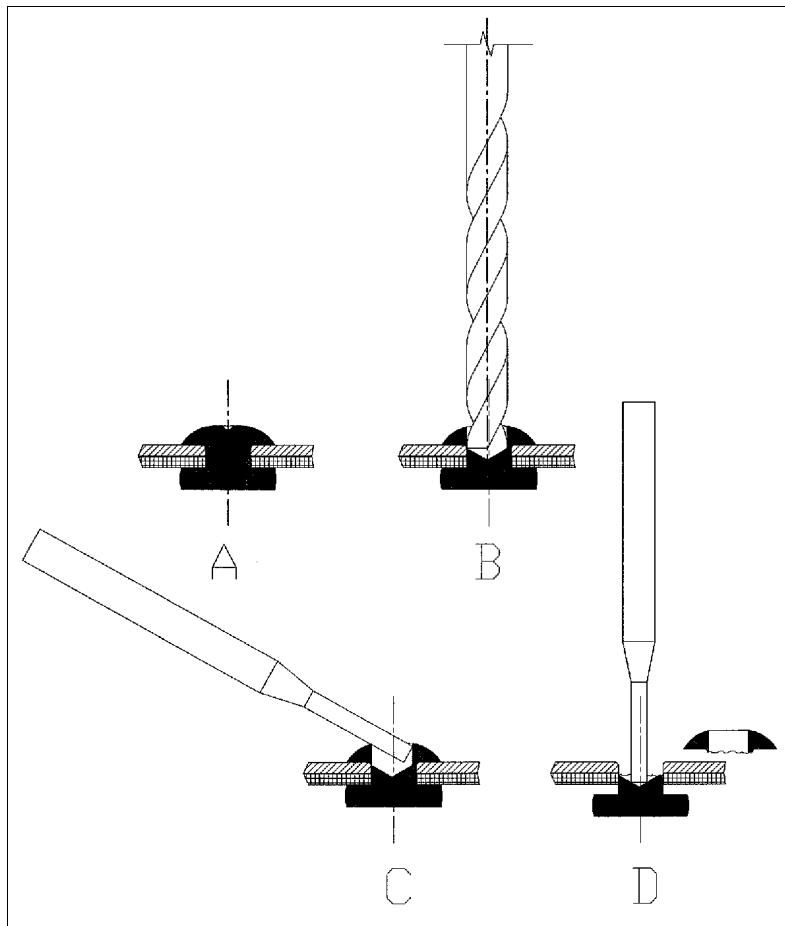

Figure 3.1.1.1): Rivet Removal Process
- 3.1.1.1) There is a trick to drilling off rivets without messing up the rivet hole. See Figure 3.1.1.1) below. Centering the drill on the rivet head is very important, of course, and the dimple helps (see view A). Nonetheless, there is no way to be absolutely centered every time. Therefore, use a drill that is